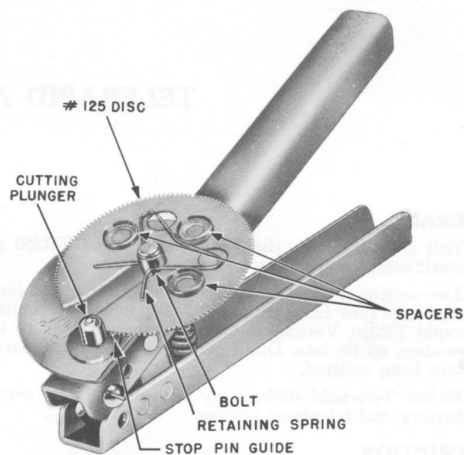

Fig. 4—Cutting Tool 125Z
3.05 The disc for Telerapid 125 has 125 teeth, for Telerapid TR350, 102 teeth; each tooth represents one pulse. The discs are stamped **125** (Telerapid 125) and **102** (Telerapid TR350). In cutting the discs, only the special cutting tools 125Z or TR351 (for Telerapid 125 or TR350, respectively), each of which is capable of cutting three teeth per operation, must be used. Slide the disc, with the side holding the retainer spring **facing up**, onto the bolt nearest the handle of the cutting tool in such a position that the slot in the disc is toward the cutting plunger. (See Fig. 4 or 5.) To begin cutting the disc, rotate the disc clockwise so that the stop-pin guide is inserted between the second and third teeth, and then with counterclockwise pressure exerted on the disc operate the cutting tool. This operation will cut only the corner of the first tooth and permits the rider of the dialer to slide more readily over the teeth. **The stop-pin guide always must be inserted between teeth of the disc and counterclockwise pressure exerted on the disc when operating the cutting tool.**